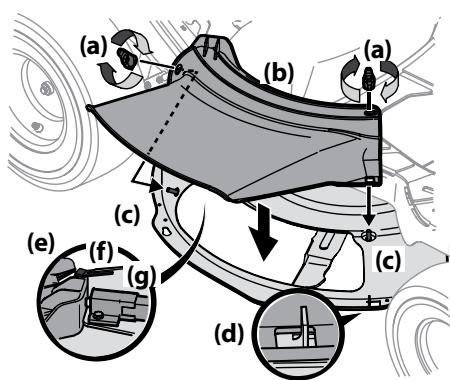

Figure 2-9
1. Remove the wing knobs (a) installed on the mowing deck and retain for later installation. See Figure 2-9.
2. Install the deck chute (b) into the deck discharge opening on the deck. The rear of the chute (b) should be under the tab (f) on the rear deck bracket (g). The studs (c) on the deck surface will fit through the holes on the upper portion of the deck chute (b). The small tab (d) on the deck lip area will fit through the square cutout on the lower portion of the deck chute (b). See Figure 2-9.
3. Secure the deck chute (b) by tightening the wing knobs (a) removed in step 1. See Figure 2-9.